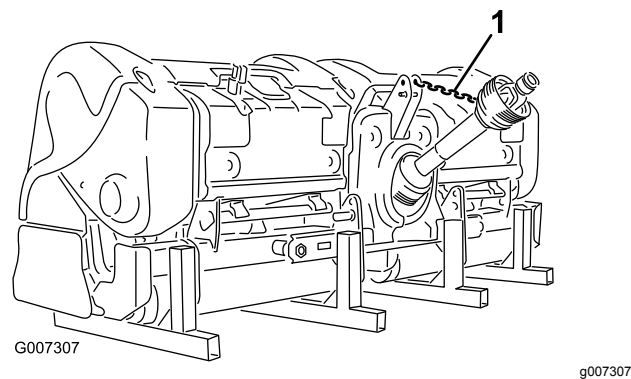

Figure 45
- 12. Connect the PTO tether to the PTO shield to prevent the PTO shaft from contacting the ground (Figure 45).